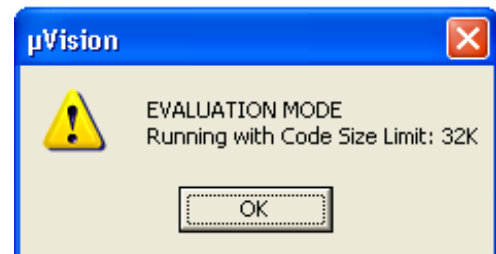

Figure 16. Evaluation Mode
- Click **OK** when the window shown in Figure 16 appears.